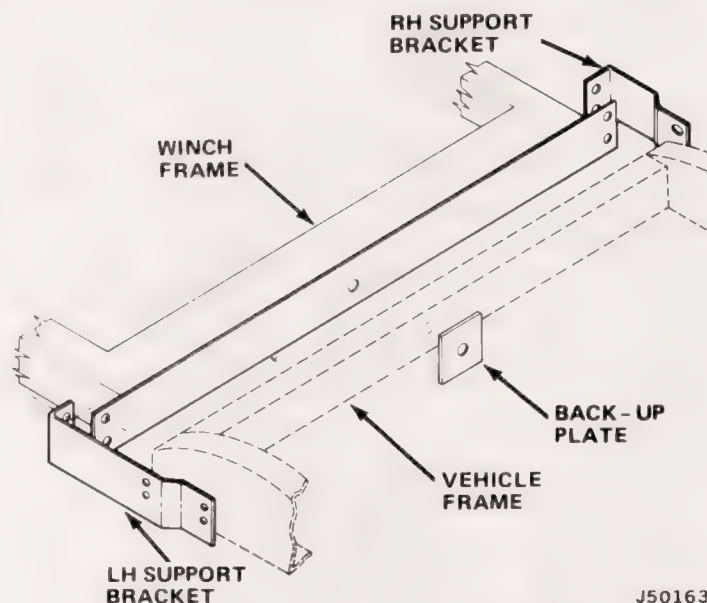

Fig. 5-7 Ramsey Electric Winch Kit Installation
(1) Remove vehicle bumper and bumper braces.
(2) Align holes at rear of winch frame with hole in vehicle frame crossmember. Install 7/16-inch diameter by 3-1/2 inches long bolt through center hole of winch frame and crossmember. Attach backup plate, adding flat washer, lockwasher, and nut. Tighten bolt finger-tight. Install 5/8-inch diameter by 1-1/2-inch long bolts on each side of center bolt. Add flat washers, lockwashers, and nuts and tighten finger-tight.
(3) Attach RH and LH brackets to winch frame with 7/16 inch diameter by 1-3/4-inch long bolts, lockwashers, and nuts (fig. 5-7).
(4) Attach LH bracket to vehicle frame with bolts, lockwashers, and nuts removed previously from LH bumper brace.
(5) Attach RH bracket to vehicle frame with 7/16-inch diameter by 3-1/3-inch long bolts, flat washers, lockwashers, and locknuts.
(6) Tighten all bolts and nuts securely.
(5) Attach RH bracket to vehicle frame with 7/16-inch diameter by 3-1/2-inch long bolts, flat washers, lockwashers, and locknuts.